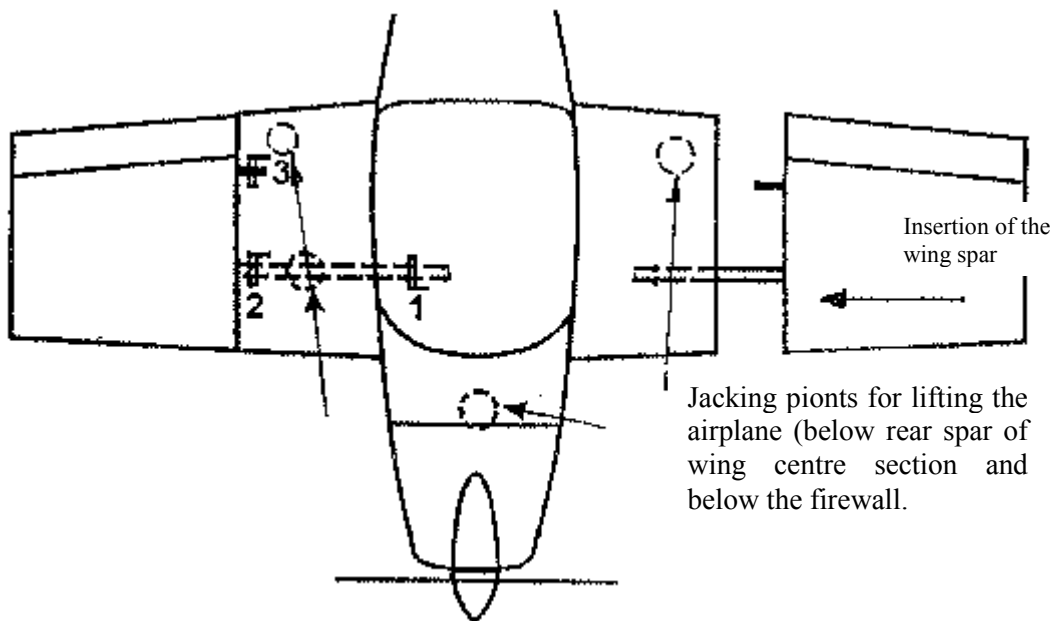

Fig. 3 Insertion of the wing spar into the wing centre section, position of the wing pins and the support points.
1. Fit the spar end of the right wing into the spar end (fork) of the wing central section and push the wing along its longitudinal axis so that a connection slot between the wing central section and the wing root is approx. 100 mm (Fig. 3). Connect the hoses from the Pitot-static tube and prepare and adjust the wing fuel tank hoses, connect the wiring for fuel tank conductive connection and position lights
5. Pull out the wing along its longitudinal axis so that there is a distance between the wing and the wing root of approx. 100 mm (Fig. 3). Disconnect the hoses from the Pitot-static tube, the wing fuel tank hoses, disconnect the wiring for fuel tank conductive connection and position lights.